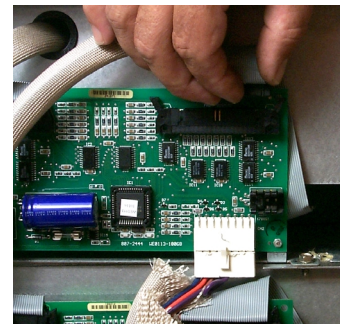

Fig: 2 Remove ribbon cable from driver board.
- Release ribbon cable from top of driver board on left side of unit. **Fig: 2.**